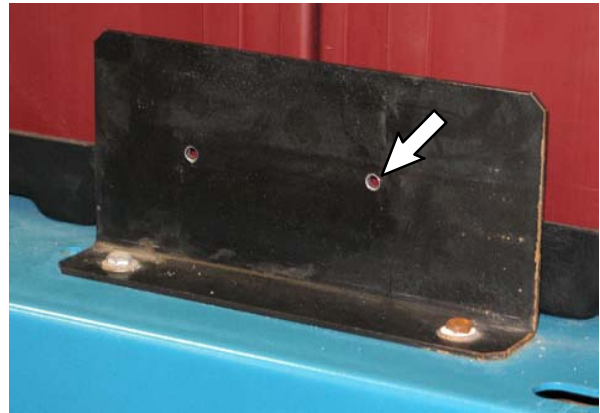

FIG. 9
18. Hold the antenna bracket (19) onto the battery brace and align the antenna bracket with the hole just previously drilled into the battery brace. Mark a location for the second hole.
19. Drill another 3/16 in (4.76 mm) hole into the battery brace to the right of the previously drilled hole. (Fig. 9)